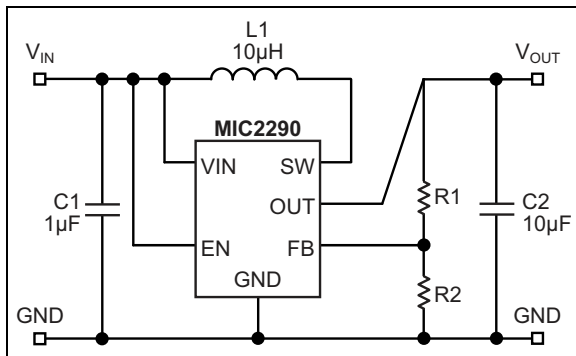

FIGURE 5-1: Typical Application Circuit.
The MIC2290 is a constant frequency boost converter. It operates by taking a DC input voltage and regulating a higher DC output voltage. Figure 5-1 shows a typical circuit. Boost regulation is achieved by turning on an internal switch that draws current through the inductor (L1). When the switch turns off, the inductor's magnetic field collapses, causing the current to be discharged into the output capacitor through an internal Schottky diode (D1). Voltage regulation is achieved through pulse-width modulation (PWM).
- Capacitor C1 value in Figure 5-1 updated.